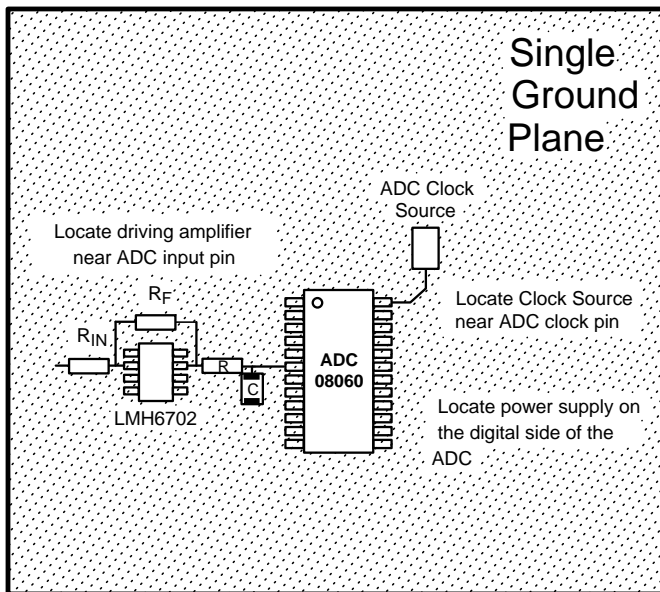

Figure 33. Layout Example
**Figure 33** gives an example of a suitable layout. All analog circuitry (input amplifiers, filters, reference components, etc.) should be placed together away from any digital components.